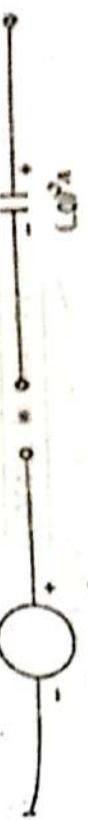

Fig. 2
Capacitance voltage, therefore, cannot change suddenly because of which it acts as ideal voltage source of strength $v_C(0^+) = v_C(0^-)$. If $v_C(0^+) = 0$ it would act as a short circuit. This is illustrated in Fig. 2.
Consider the RL series circuit of Fig. 2. Just before the application of voltage (step) the circuit history is represented by the inductor current $i_L(0^-)$ which in this circuit is zero because
Q.2. In the circuit of Fig. 2, the switch S has been in position '1' for a long time. It is thrown to position '2' at $t = 0$